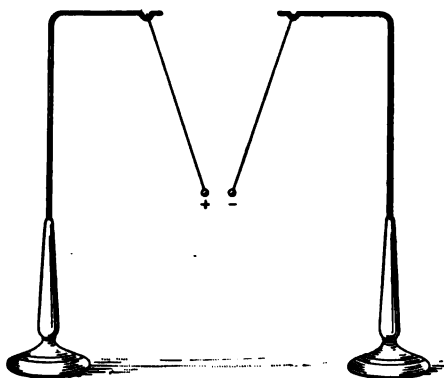

FIG. 179
*they tend to repel each other.* But the ball which the rod repelled was attracted by the wax, and the one charged by touching the wax was attracted by the glass rod. So we see *that bodies charged with opposite kinds attract each other.* If we charge the pith balls, one from the glass rod and the other from the wax, they will attract each other when brought together (Fig. 179).